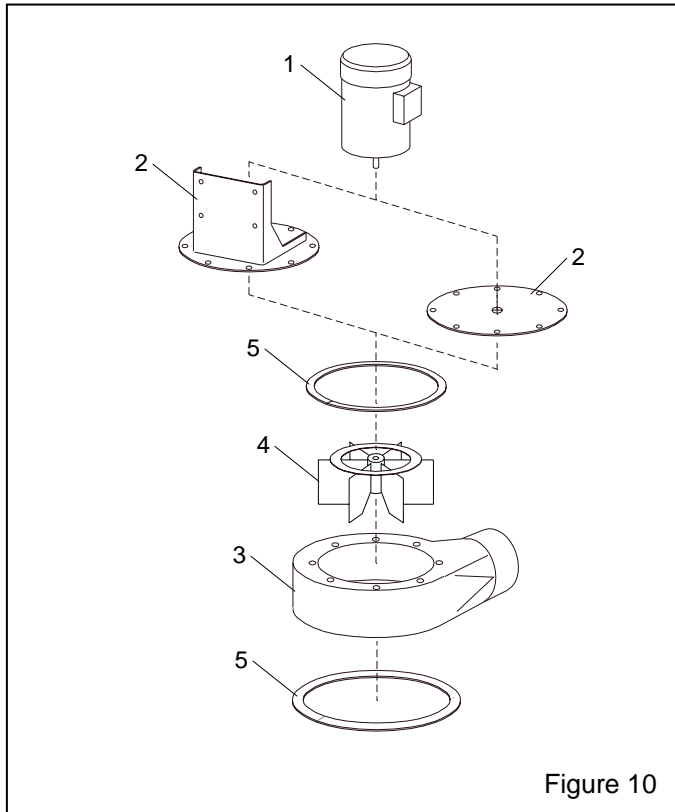

Figure 10
9.3 Exhauster Assembly, Figure 10